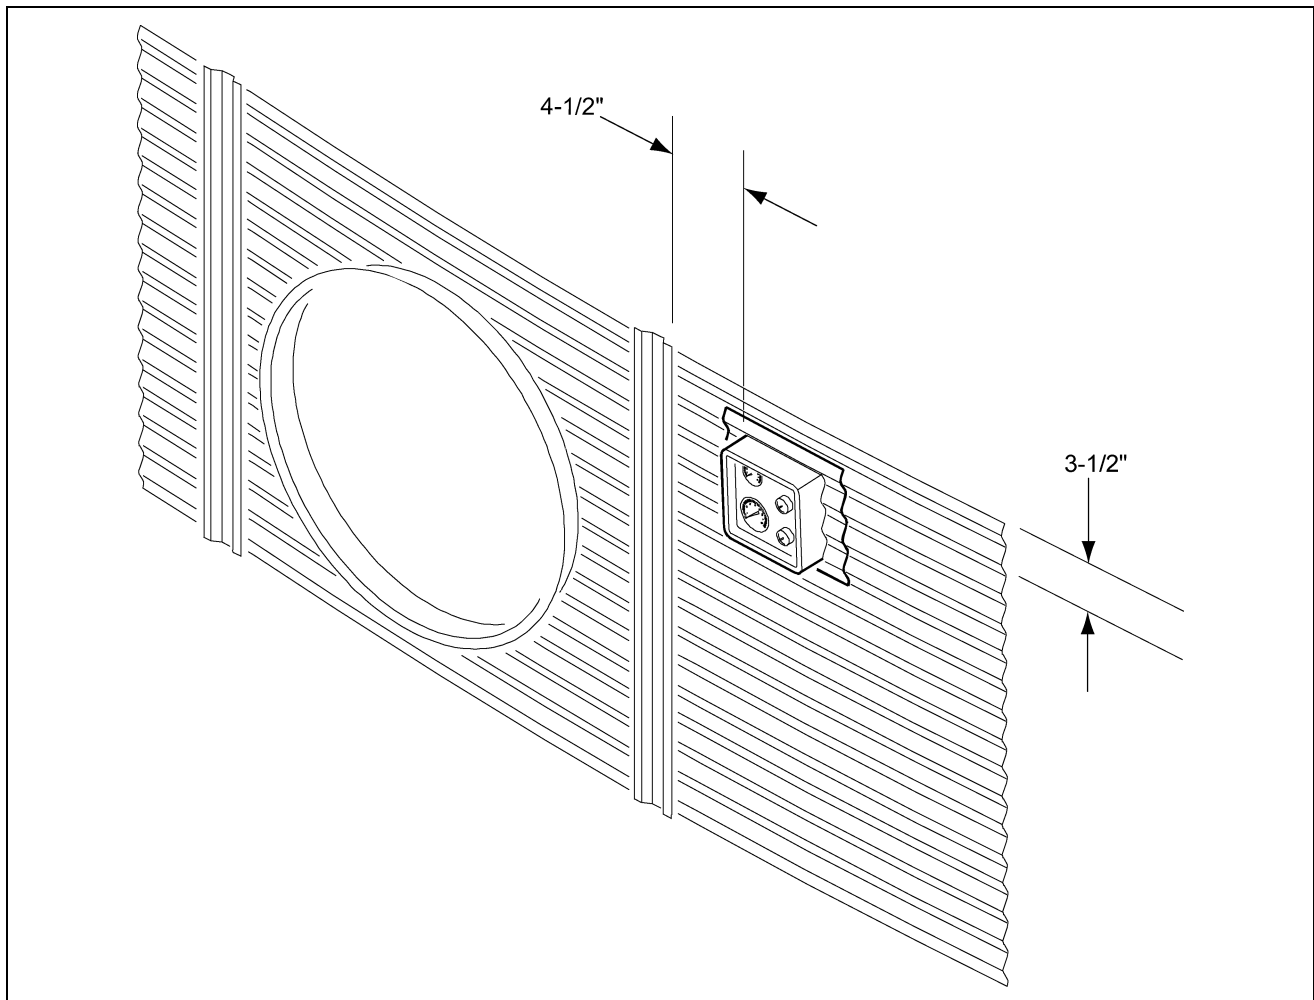

Figure 4A Placement of the Top Dry High-Low Thermostat
1. Locate the mounting position of the thermostat as shown in Figure 4A.